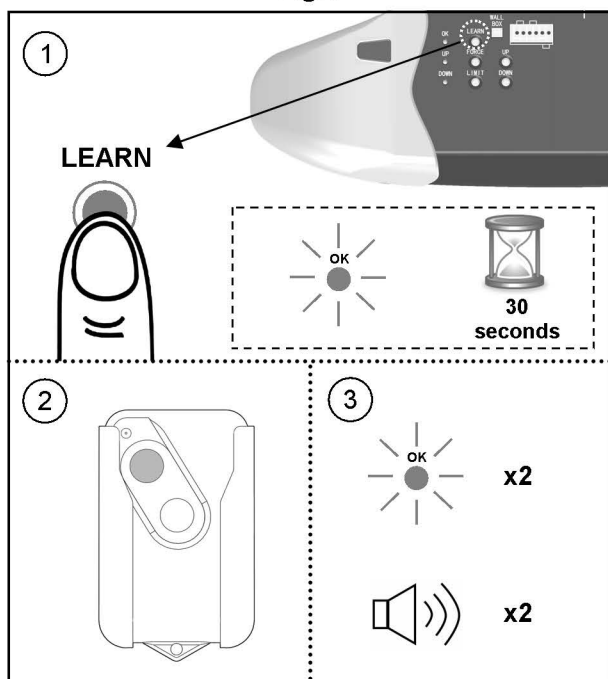

Fig.2
1. Press/release the "LEARN" button once on the rear control panel, "OK" LED will glow and beep. The unit is now ready to accept a remote control in the next 30 seconds as shown in Fig.2.